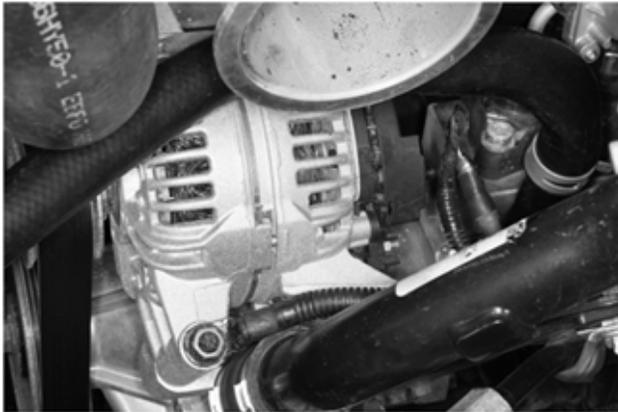

Figure 14
15. Remove lower-front alternator-mounting bolt. If there is a bracket clamp present, leave it in place. Install bolt through ground terminal of alternator harness, then through bracket clamp, and re-install bolt (Figure 14). Tighten to specification.